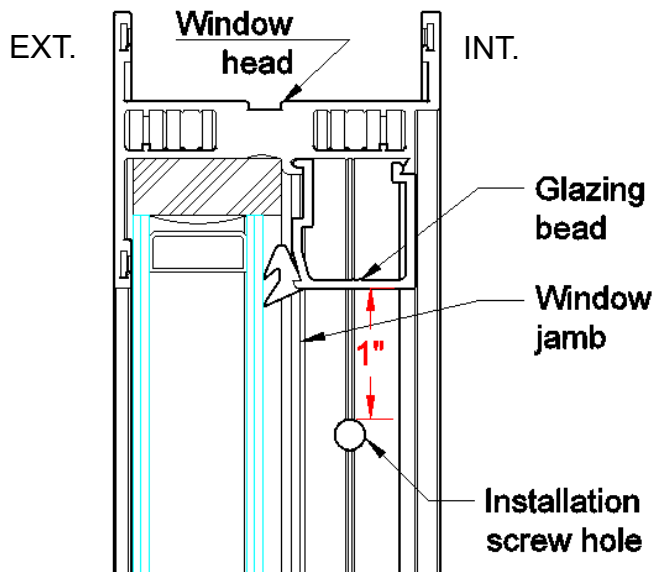

Figure 5: Side View of Jamb on Top
2.4 Remove the glazing beads on both window jamb, drill a hole on the top of each jamb (refer to figure 5). Notice: the hole is around 1" far from the glazing bead on the window head, and align with the glazing bead, make sure the glazing bead on the jamb can cover it after reinstall the glazing bead.